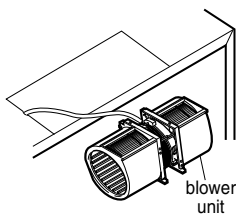

Figure 21
4. Rotate blower unit 90° so the exhaust ports face the top of the cabinet. See Figure 21.